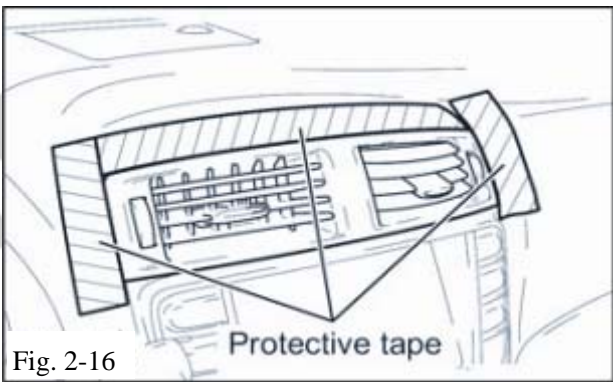

Fig. 2-16
- (i) Remove the upper vents trim piece. (Fig. 2-16)
- (1) Apply protective tape to dash area as shown. (Fig. 2-16)